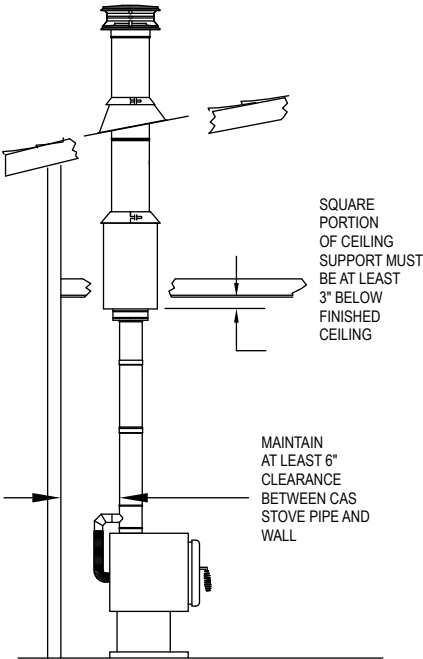

Figure 1
These CAS installation instructions are intended to be used with the full installation instructions for DuraTech. Except as described in these installation instructions, always follow the DuraTech installation instructions for a safe installation. These CAS installation instructions describe how to connect the CAS system to the DuraTech chimney system, and how to connect the CAS system to the stove. In order for the CAS system to be function properly, the system needs access to outside air. The outside air is intended to come through the ventilated attic space or flashing (through-the-ceiling installations, **Fig 1 & 2**) or through the chase (through-the-wall installations, **Fig 3**).
Step 2. Install CAS Ceiling Support. Cut and frame an opening for the CAS Ceiling Support. Refer to **Table 1** for proper framing dimensions. Install the CAS Ceiling Support into the framed opening, and ensure the Ceiling Support is level. The square portion of the Ceiling Support must be a minimum of 2" below the finished ceiling (**Fig 1, 2**). Secure the Ceiling Support with at least (2) 1-1/2" wood screws per side; minimum of (8) wood screws total.